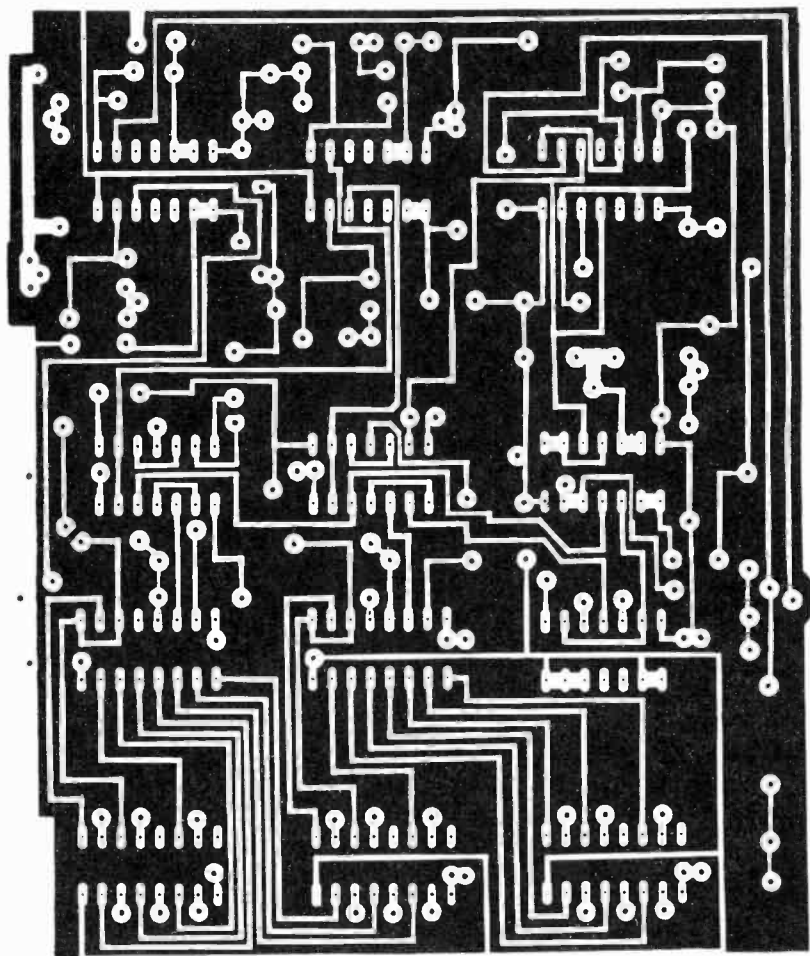

Fig. 2. Pcb board etching and drilling and component (top) guides.
**Construction.** Printed circuit (guides shown in Fig. 2) perforated board, or Wire Wrap techniques can be employed to duplicate the circuit. The use of IC sockets is recommended. Be sure to observe the polarities of all IC's, diodes, and electrolytic capacitors, and to exercise care when handling the CMOS devices. The author's prototype was housed in a Continental Specialties Corporation Model DMC-1 case. However, any enclosure large enough to house the components and battery power supply can be used. Drill and label the front panel of the enclosure using the photograph of the prototype as a guide. Use LED holders or rubber grommets to retain the LED's in place.